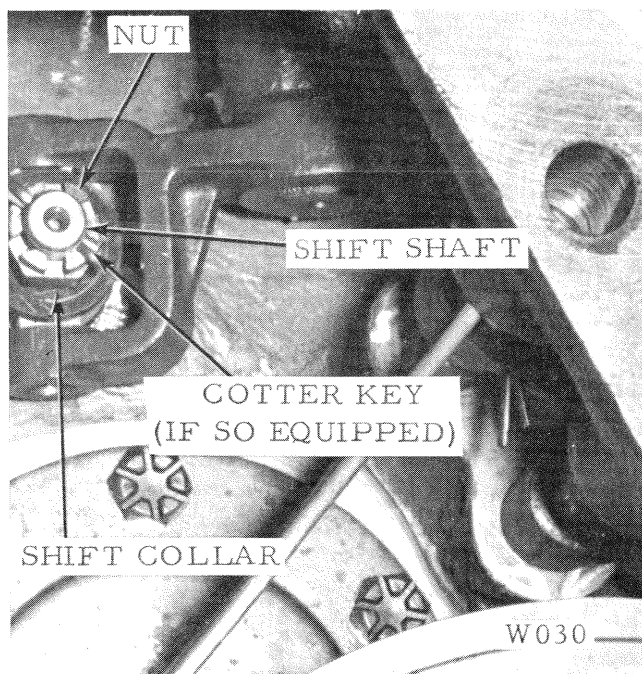

Figure 30
b. Unscrew the nut retaining the shift collar and spring. Remove these parts from the end of the shaft. Fig. 30.